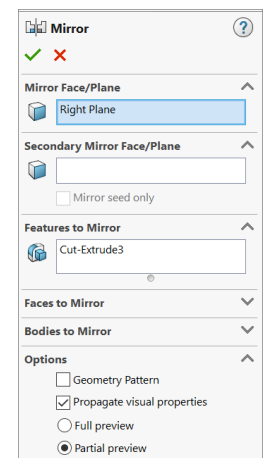

Fig. 41
Step 3. In the Mirror Property Manager click **OK**  , **Fig. 41**.